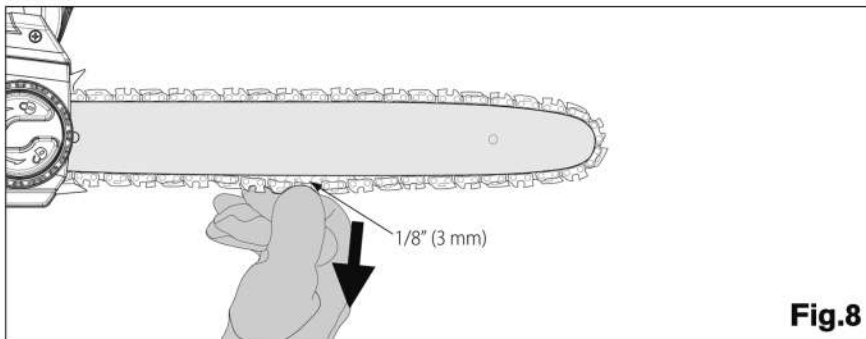

Fig.8
1. Check the chain tension by pulling the saw away from the guide bar. A properly tensioned chain should have roughly 1/8 inch of distance between itself and bar guide.(**Fig.8**)